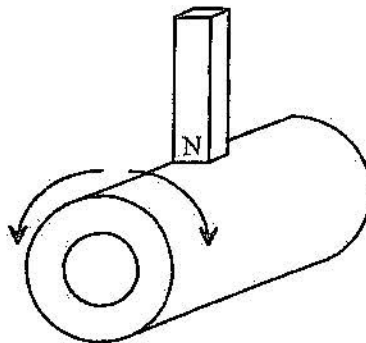

Figure 5
20. Place one magnet on the coil as shown in figure 5.